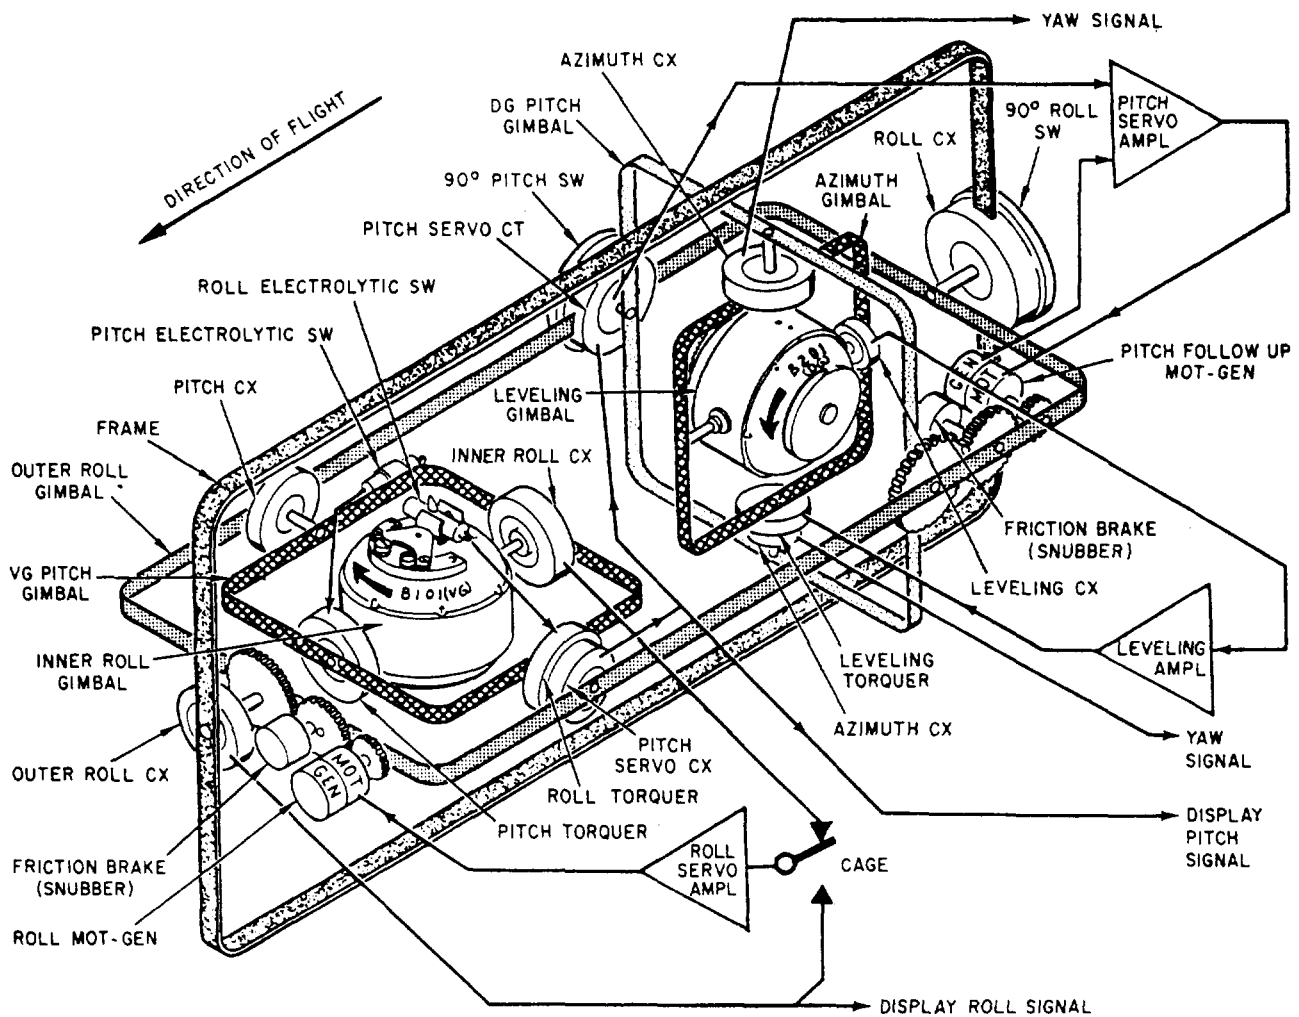

Figure 7-17.—Typical displacement gyro and servo loops.
The displacement gyroscope assembly (fig. 7-17) consists of a vertical gyro (VG) and a
Look at figure 7-17 as you read this section. The vertical gyro consists of gyro spin motor B101 (which is the inner roll gimbal) and the vertical gyro pitch gimbal. It also includes the outer roll gimbal and the frame. The frame mounts to the assembly case and follows all aircraft maneuvers. The outer roll gimbal mounts in the frame. It may